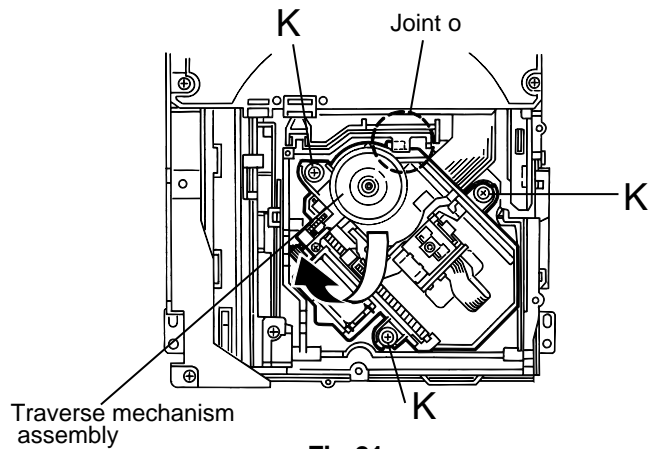

Fig.21
■ Removing the traverse mechanism assembly (See Fig.21)